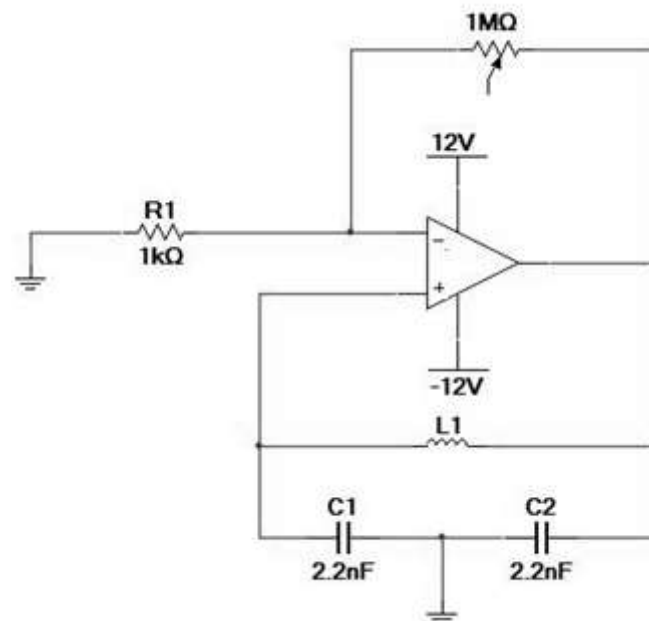
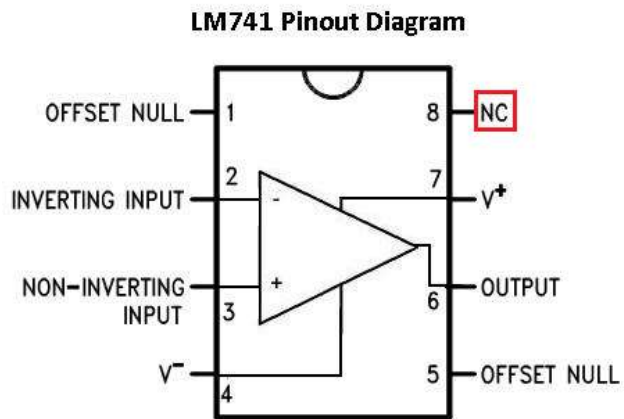

Figure 4.1: Colpitts Oscillator Circuit
Figure 4.2: 741 Op-Amp Datasheet
- Connect the circuit as shown in Fig.4.1 by using the 741 datasheet in Fig. 4.2.